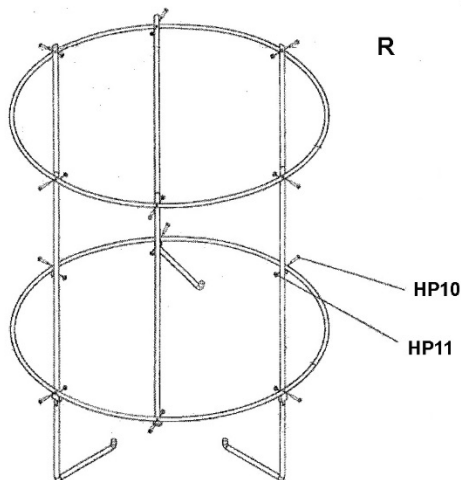

Figure 13
19. Screw the short and long frame supports into the hoops in alternating manner, as shown in Figure 13. Secure with twelve pan head screws and hex nuts (HP10,HP11). (Note: The bends on long supports point inward as shown.)